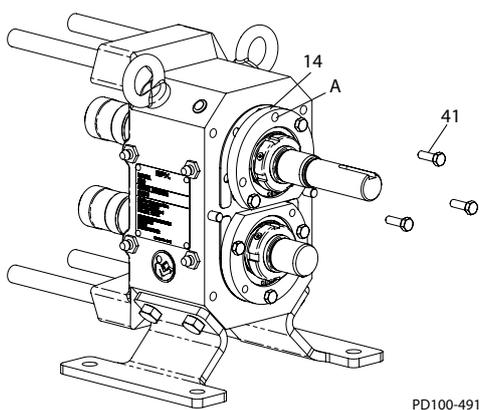
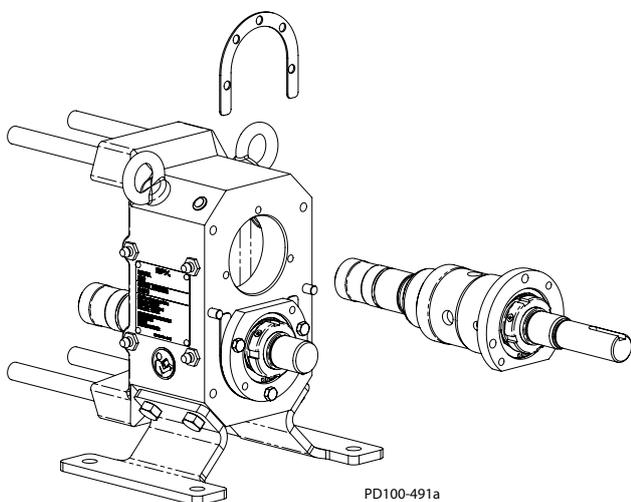

Figure 40 - Remove Screws
Figure 41 - Remove Shaft
4. Remove the bearing case screws (Figure 40, item 41).
5. Install 2 screws in the tapped holes (Figure 40, item A) in the bearing case (item 14). Tighten the screws to pull the bearing case from the gear case. (Figure 41).